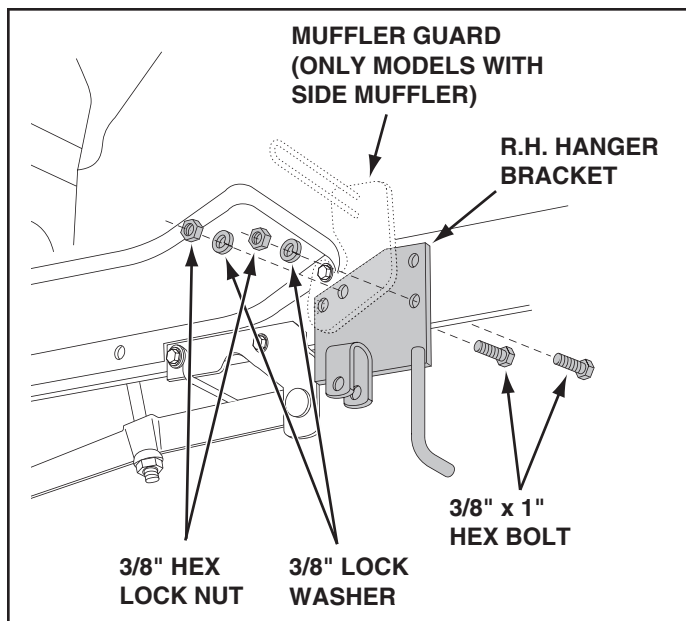

FIGURE 4 RIGHT SIDE VIEW
- Assemble the R.H. hanger bracket to the bottom hole where the mower stop bracket was removed and to the upper hole under the front of the foot rest. Fasten with two 3/8" x 1" hex bolts, 3/8" lock washers and 3/8" hex lock nuts. (On tractors with muffler guards, slide the hanger bracket between the guard and the tractor frame.) See figure 4.